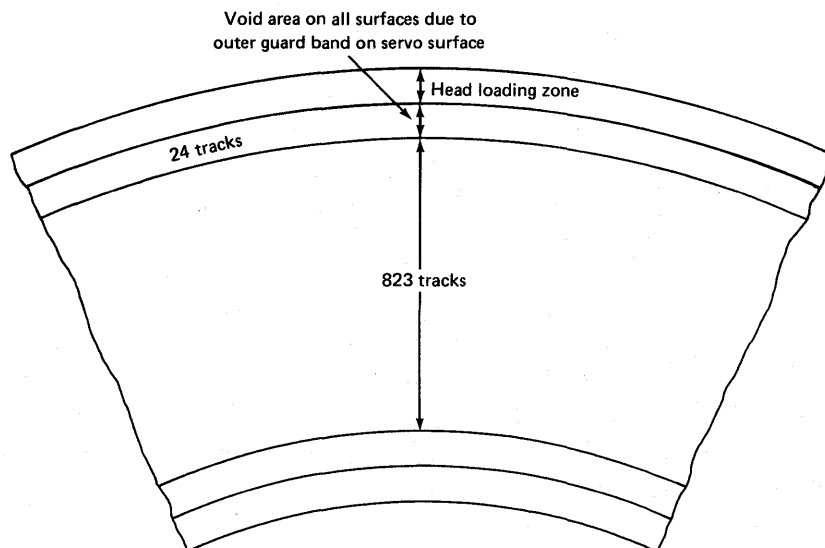

Figure 42. Outer guard band
9. Refer to figure 42. The area shown here, between the head loading zone and the data tracks, is called the outer guard band area. The actual outer guard band is a specially recorded area located only on the *servo* surface and results in a void space on each *data* surface. It is used basically for timing purposes and as an indication of reverse end of travel for the positioner. It consists of a space that is equivalent to 24 tracks.